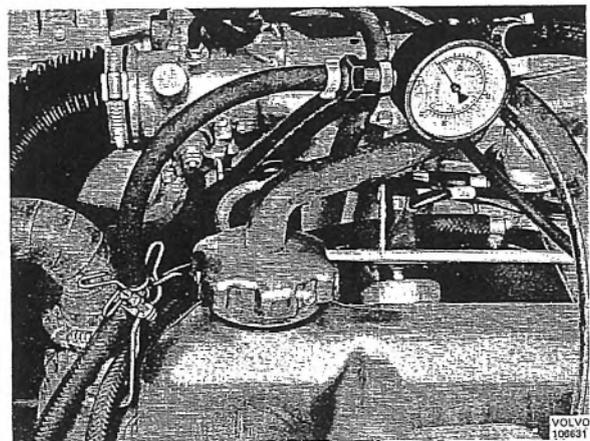

Fig. 2-99. Connecting pressure gauge
1. Remove the hose from the fuel pump at the distributor pipe and connect up the pressure gauge, see Fig. 2-99.